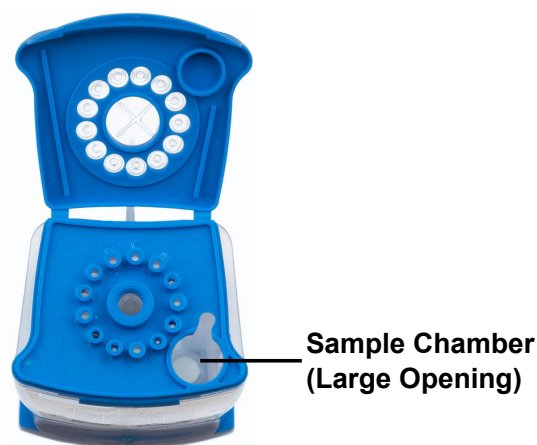

Figure 21. Xpert Xpress CoV-2 *plus* Cartridge (Top View)
15. To transfer the sample to the cartridge, squeeze the top bulb of the pipette completely again until it is fully flat to empty the contents of the pipette (300 μ L) into the large opening (Sample Chamber) of the cartridge shown in Figure 21. Some liquid may remain in the overflow reservoir. Dispose of the used pipette.